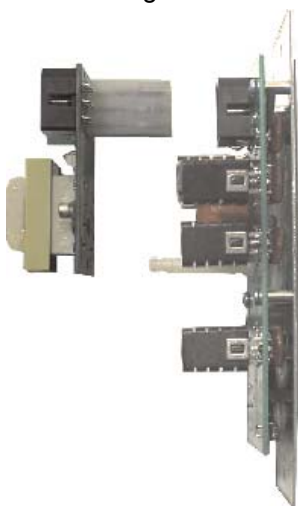

figure 31
4. Locate the thermostat terminal block, marked T’STAT INPUT, found on the back of the board (see figure 31).